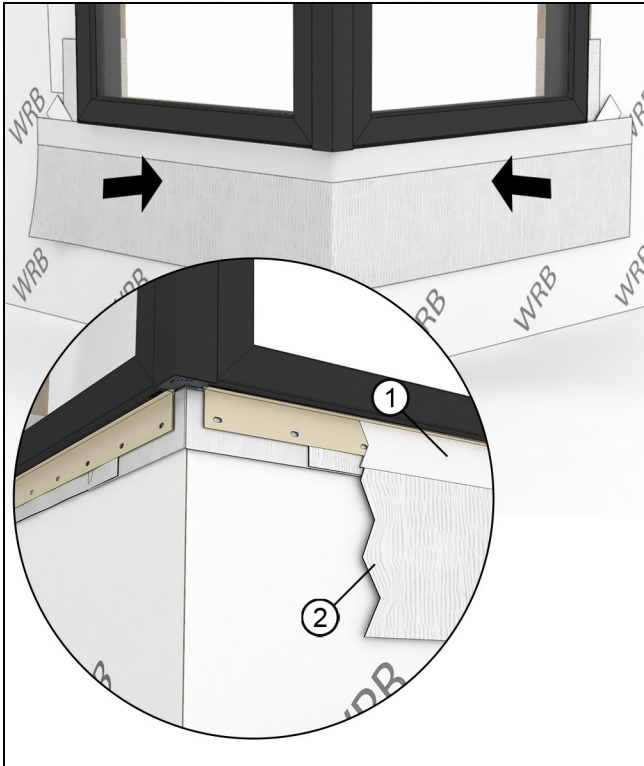

Figure 66 Inset of high pressure skirt cut away for illustrative purposes.
1. Install an **optional** "high pressure skirt". Use flashing material or a strip of weather resistive barrier and attach it to the sill of the window with seam seal tape or flashing tape. See Figure 66.